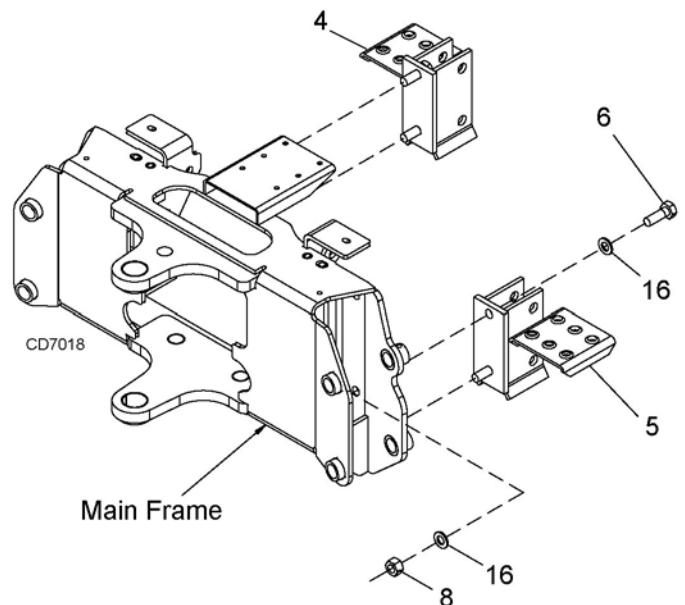

Figure 2. Rear Bracket Installation
1. Attach rear brackets (4 & 5) to main frame using bolts (6), hardened flat washers (16), and hex nuts (8) as shown in Figure 2.